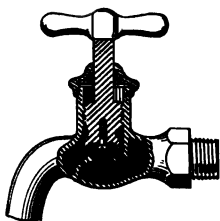

FIG. 66. — Cross section of common faucet.
74. Hydrants and faucets. The only parts of this great system of water pipes which we ordinarily see are the *hydrants* on the edge of our sidewalks, and the *taps* or *faucets* at our sinks and bathtubs. These are merely valves for opening and closing the pipes. The internal construction of the ordinary tap is shown in figure 66. The handle operates a screw which forces a disk, faced with a fiber washer, against